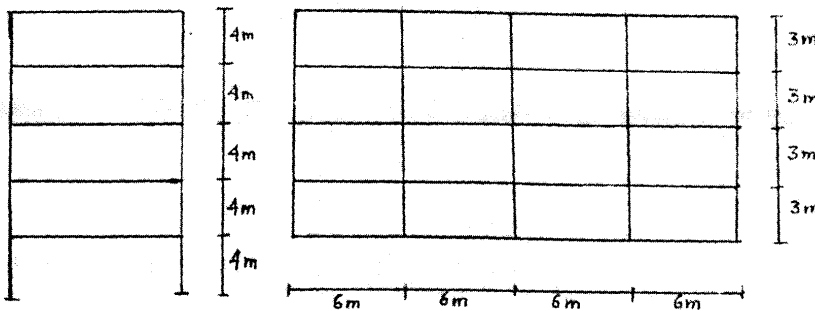

Figure 1
7. (a) What do you understand by the terms — focus, epicenter and peak ground acceleration? (6)
- (b) Explain briefly magnitude and intensity of an earthquake. (5)
- (c) What do you understand by “OMRF and SMRF”? (4)
8. (a) What do you understand by strong column weak beam frame? Explain. (3)
- (b) Calculate the seismic forces at different floor levels for the building as shown in Figure 1 having the following specifications : (12)